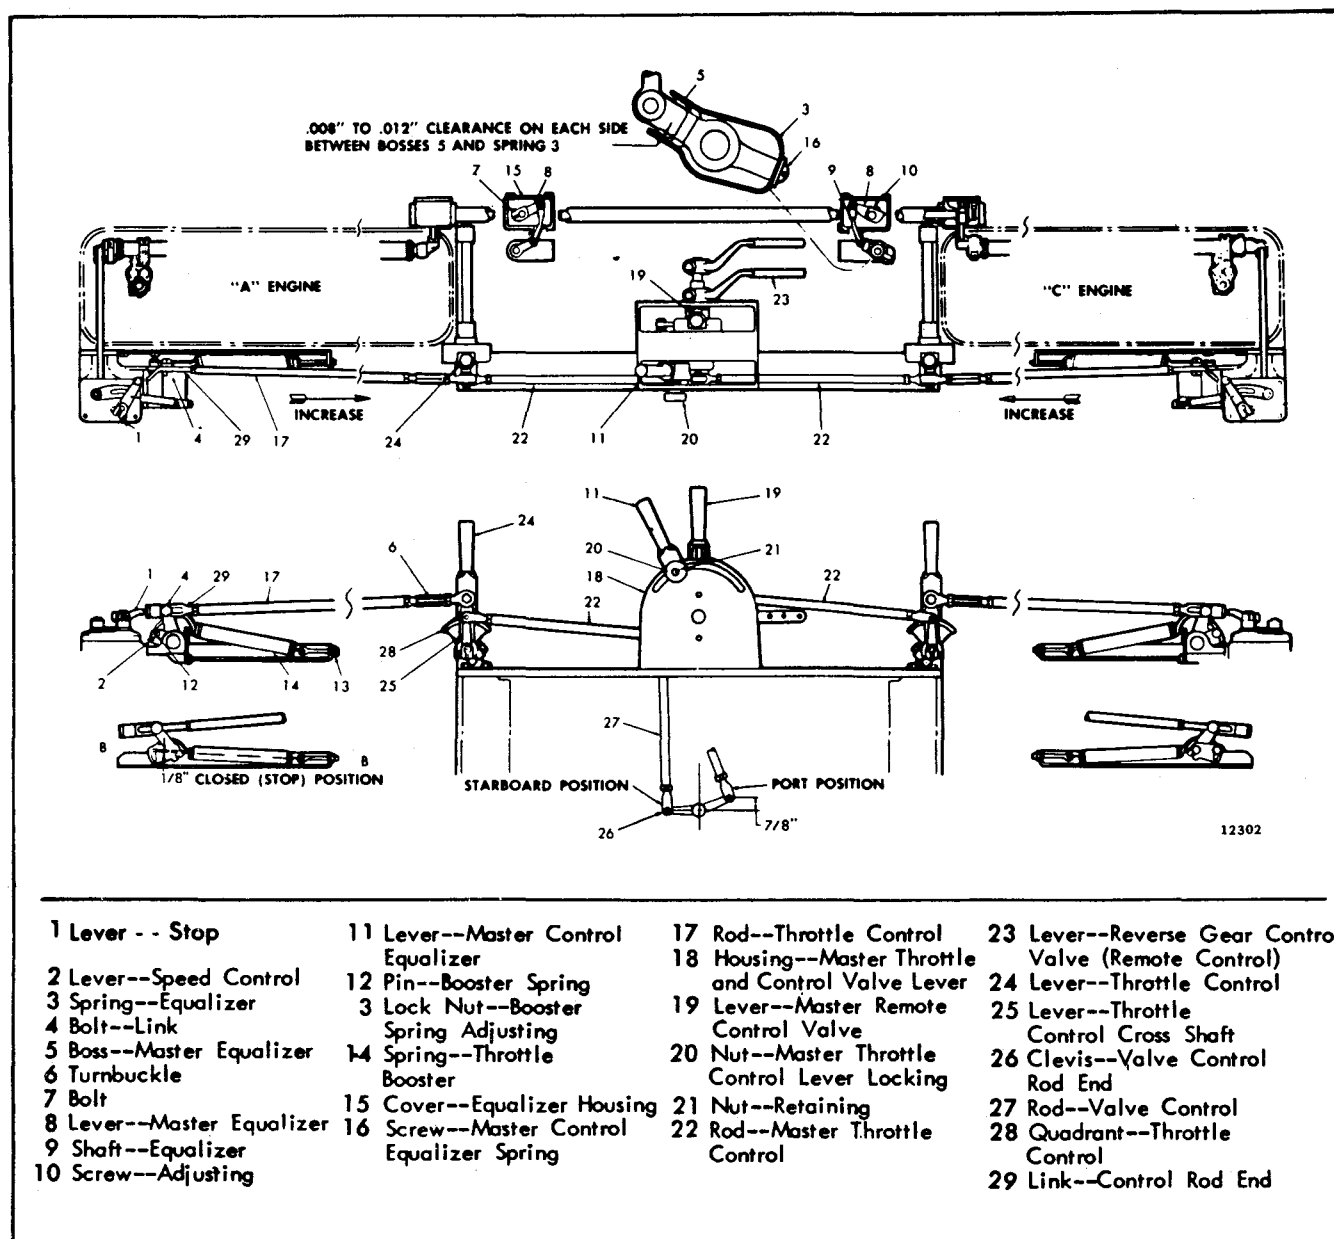

Fig. 3 - Diagram of Throttle Control Linkage for Tandem Twin Marine Unit with Variable Speed Governors
Disconnect the control rods (17) from the speed control levers (2), Fig. 3, and perform a tune-up on each engine before adjusting the throttle control linkage. Then, with engines stopped, proceed as follows:
2. Move the master throttle lever (1) toward the full open position until the two clevis pins in the upper
3. Disconnect the master throttle control rods (22) from the cross shaft operating levers (25) of the "A" and "C" engines (Fig. 3).
4. Lock the throttle levers (24) to their quadrants (28) in a vertical position.
5. Loosen the clamp bolts on the throttle lever quadrants (28), if necessary, and set the cross shaft operating levers (25) vertically with the holes for the clevis pin on an imaginary line extending through the centers of the cross shafts and rod end bearings and between these centers. Retighten the clamp bolts on the quadrants.
6. Hold the throttle control levers (24) in a vertical position and adjust the master throttle control rods (22) with the clevises so the clevis pins will just slide into position through the holes in the clevises and levers (25). Install the cotter pins.
7. Loosen the knurled locking nut (20) and move the master throttle control lever (11) toward the full open position until the threaded locking stud is within 3/8" to 1/2" from the end of the slot in the housing (18). Then retighten the locking nut.
8. Adjust the length of the throttle control rods (17), with the turnbuckles (6), until the speed control levers (2) are fully open. Tighten the turnbuckle lock nuts.
- a. Disconnect the equalizer link at the master equalizer lever(8) on the "A" engine.
- b. Warm up the engines, then run each engine at maximum speed and compare the speeds with the original maximum speed to check the proper length of the throttle control rod (17).
- c. If the engine speeds are satisfactory, connect the equalizer link and install the cotter pin; if the speeds are unsatisfactory, readjust the control rods (17) as necessary.
10. With the master remote control valve lever (19) set in a vertical position, check the position of the remote reverse gear control valve lever (23). On a port propulsion unit, the center of the clevis pin hole in the valve lever will lie on a horizontal center line drawn through the center of the valve lever shaft (Fig. 3) and point forward. On a starboard propulsion unit, the clevis pin hole in the selector valve lever will point aft and lie 7/8" above the horizontal center line drawn through the center line of the valve lever shaft.
- a. With the engines stopped, the master throttle control lever (11) in the full open position, and the equalizer links connected at the "A" and "C" engines, loosen the bolt (7) in the master equalizer lever (8) on the "A" engine so the lever can turn on the shaft.